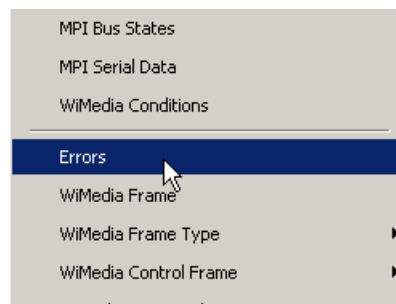

Figure 12.11 Selecting Event Type
Step 2 Select an event (Figure 12.11).